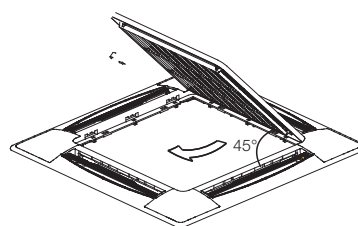

Fig.4-13
- 2) Draw the grill up to an angle of about 45, and remove it. (Refer to Fig.4-13)